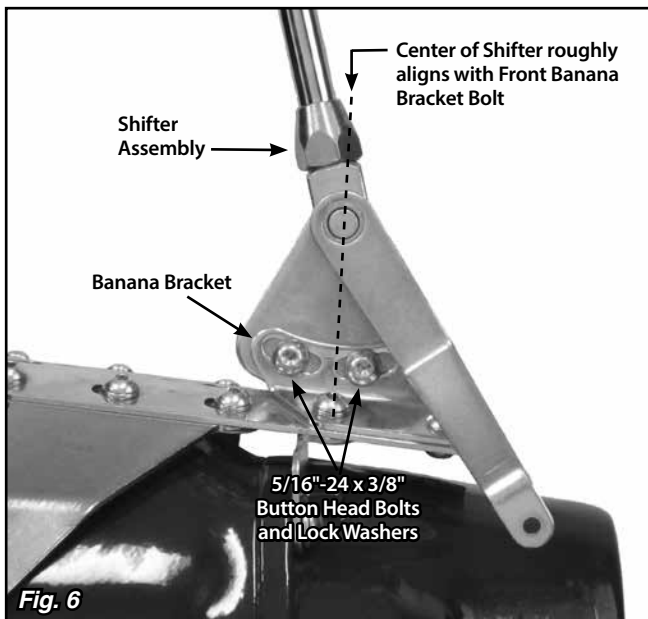

Fig. 6
Step 8: (Continued) Transfer that measurement to the transmission (or to the engine/transmission assembly if the engine is not installed in the vehicle). Mark that location on the shifter's main plate. The holes in the main plate that are closest to your mark are where the **FRONT** banana bracket bolts will need to be installed. **Fig. 6**
Step 10: Make sure the two 5/16"-24 x 3/8" button head bolts and lock washers that attach the driver side banana bracket to the shifter assembly (in the curved, slotted holes) are tight. Before tightening the shifter assembly down to the main plate, move the shifter lever through all of the gear positions. Make sure that the shifter lever and knob do not come in contact with the dash or the seat. The shifter assembly can be tilted forward or backward if needed by loosening the 5/16"-24 x 3/8" button head bolts and lock washers in the curved, slotted holes in the driver side banana bracket. **Fig. 6**
Double check to make sure that the bolts connecting the driver side banana bracket to the shifter assembly are tight. **Fig. 6**